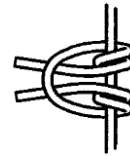

fig. 4
- Step 3 Continue to make one more turn around the line (fig. 4).
- Step 1 Follow instructions above to fig. 4.